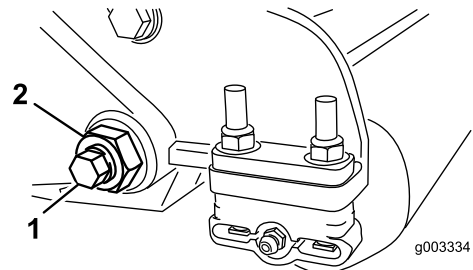

Figure 30
3. On each side of the machine, loosen the locknut securing the bedbar bolt (Figure 30).
4. Remove each bedbar bolt, allowing the bedbar to be pulled downward and removed from the machine bolt (Figure 30).